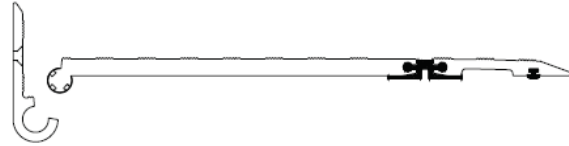
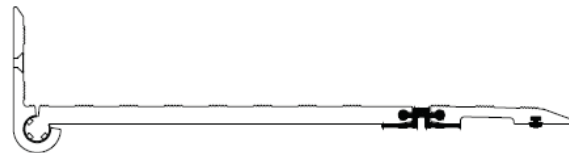

Figure 8
Figure 9
**STEP 8.** Select the wall base member and its corresponding cover plate. Assemble the joint cover system by sliding the cover plate's plug into the wall base member's socket (Figure 8 & Figure 9).